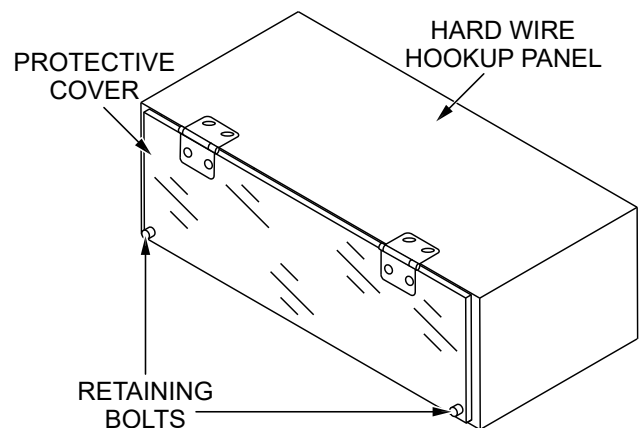

Figure 10. Protective Cover (UVWO Terminal Lugs)
The output terminal lugs are located behind a **protective cover** (Figure 10). Unscrew the **retaining bolts** (2) and remove the cover to gain access to the output terminal lugs.